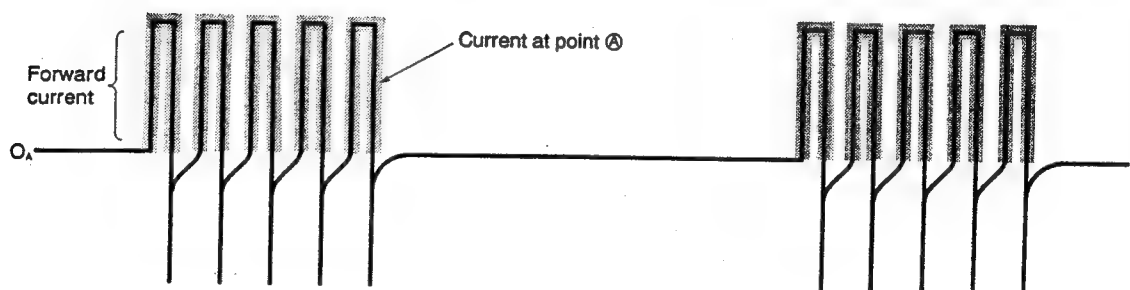
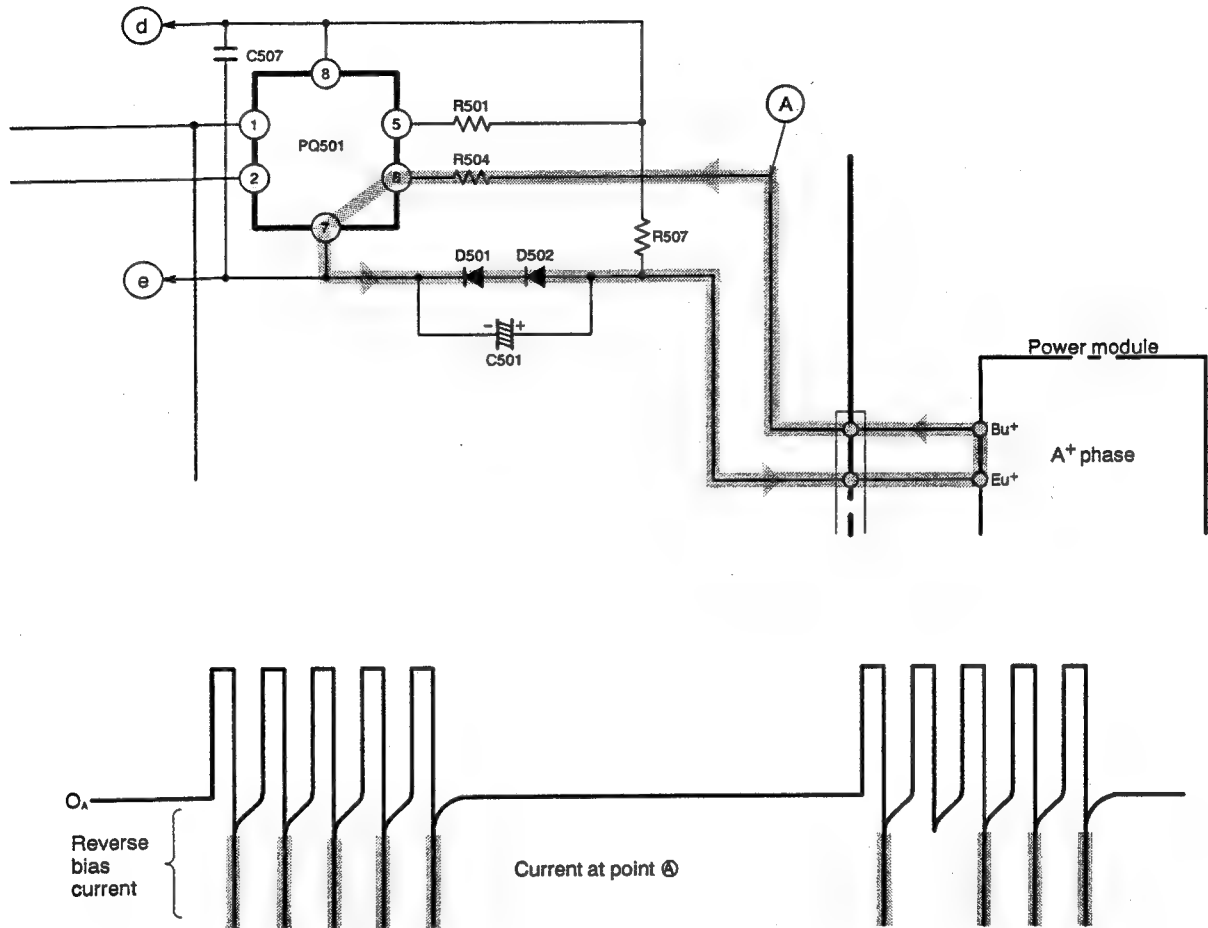

Fig. 7-2 Forward Current Waveform at Point A
Fig. 7-3 Waveform of Transistor Base Current (Reverse Current at Point ④)
- When pin 38 of HIC-1 goes "Hi" → "Lo", a photocoupler between PQ501 pins ① and ② turns on and current flows to terminal (d) → R501 → PQ501 → R504 → power module's Bu⁺ terminals → Eu⁺ terminals → D502 → D501 → terminal (e) and drives the upper arm transistors. (Fig. 7-2)
- As described in the rotor magnetic pole position detecting circuit, the upper arm drive circuit supplies current to the bases of the transistors on the power module's positive ⊕ side which turn on or off according to the position detection signals. The signals according to the position detection signals are output from pins 27, 28 and 29 of the micro computer and are input to pins ① of photocouplers PQ501-PQ503 via driver IC1.
- When pin ③⑧ of HIC-1 then goes "Hi" → "Lo", a photocoupler between PQ501 pins ① and ② turns off and the reverse bias current flows to C501 → power module's Eu⁺ terminals → Bu⁺ terminals → R504 → PQ501 to cut off the upper arm transistors. (Fig. 7-3)